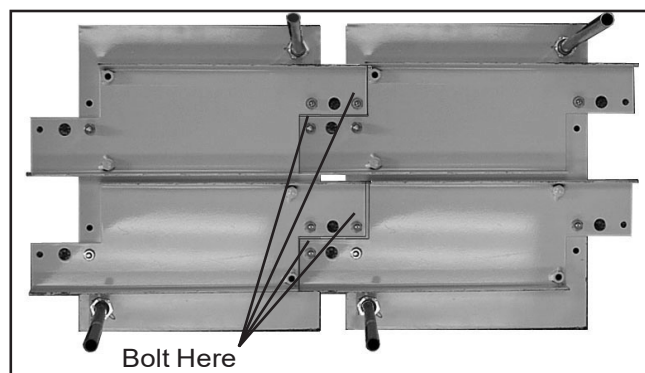

Figure 8
3. If gang mounting boxes, join support channels of ganged mounting boxes together as shown using 1/4-20 x 5/8 bolts, lockwashers, and nuts provided (Figure 8).